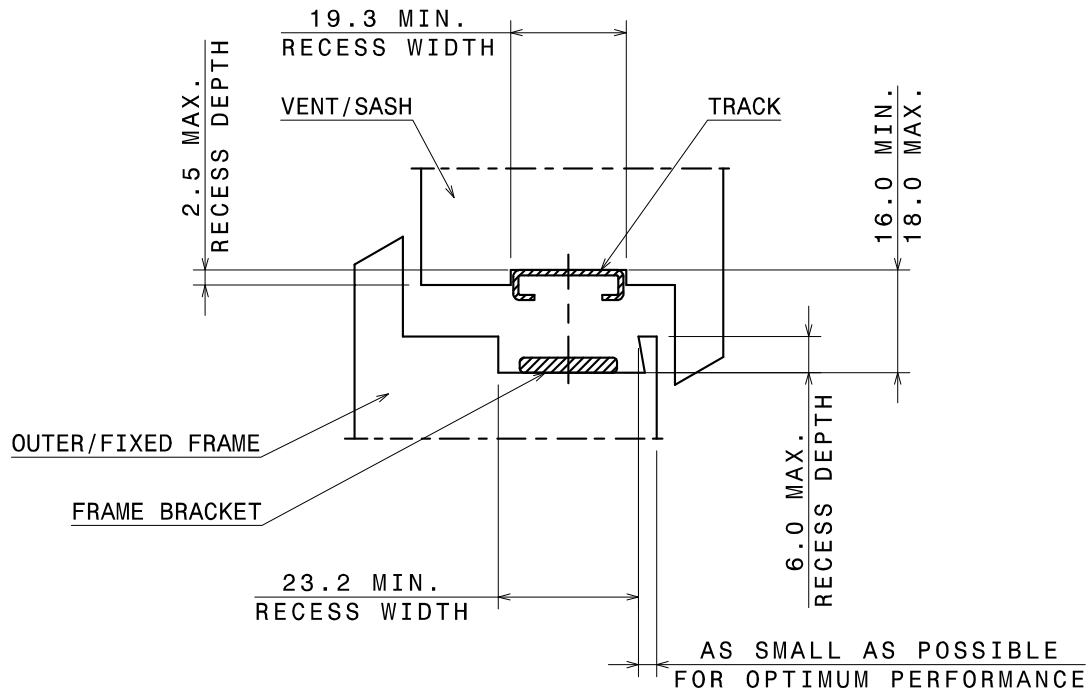

Fig. 3
2.1.12 The vent and outer frame location recess or up stand, if any, must be as shown in Fig. 3.
- 2.1.19 No routing of the profile is required unless the profile silhouette does not conform to the clearances requirements (see Fig. 3).
- 2.1.22 No routing of the profile is required unless the profile silhouette does not conform to the clearances requirements. See Fig. 3.